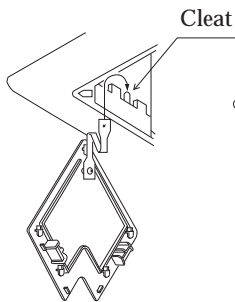

Figure 8
** ① As Figure 8 shown, tie the rope of the corner cover on the cleat of the decorative panel.